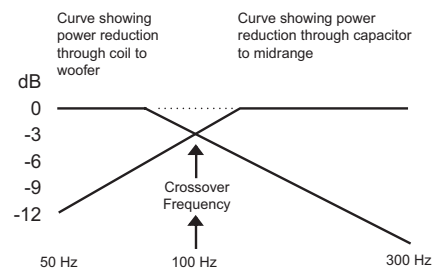

Fig. 5
The reduction continues as the frequencies passing through the capacitor become lower. Fig. 5 depicts the power reduction of a 100 Hz coil and a 100 Hz capacitor.
2. Two speakers in the same car, which are playing the same information, will increase the combined acoustical output by up to 3 dB depending on relative location and signal phase. In a crossover situation, even though the low pass filter's speaker is down 3 dB and the high pass filter's speaker is down 3 dB, their combined output is up to 3 dB higher. The dashes in Fig. 5 represent the combined acoustical output of the woofer and midrange in the crossover area when there is a 3dB increase.